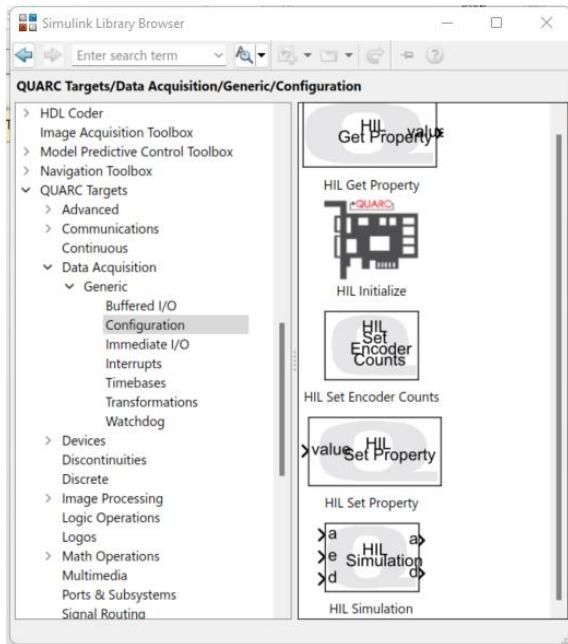

Figure 2: Simulink Library Browser QUARC Target Configuration Blocks
4. Expand the *QUARC Targets* item and go to the Data Acquisition | Generic | Configuration folder, as shown in Figure 2.